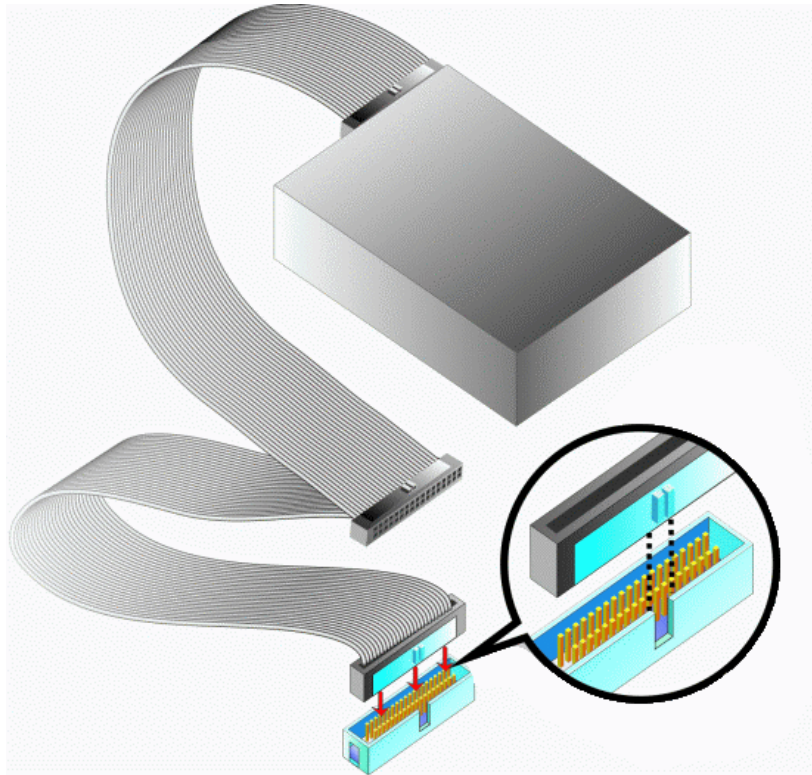

Figure 5-12: IDE Cable Connection
Step 2: **Insert the connector.** Connect the IDE cable connector to the onboard connector. See **Figure 5-12**. A key on the front of the cable connector ensures it can only be inserted in one direction.